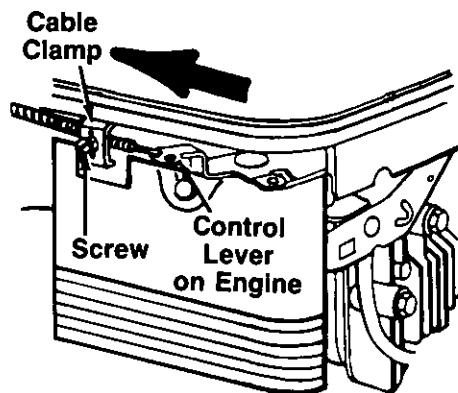

FIGURE 14.
1. Remove the screw shown in figure 14. Remove the cable clamp from the cable.